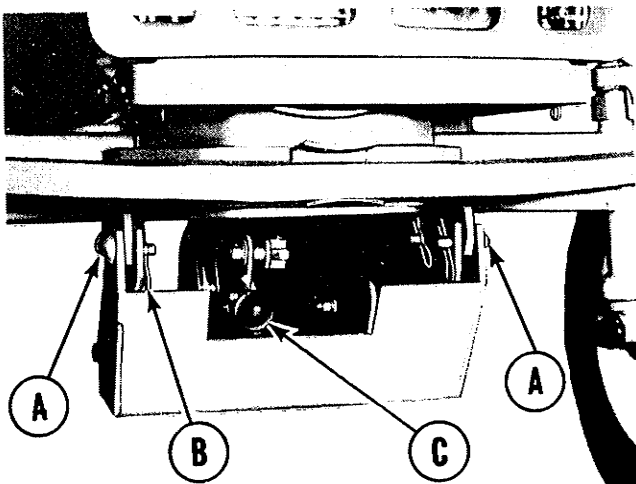

Figure 1. Hitch for center mounted attachments shown mounted on tractor.
1. See figure 1. Using four pins (A) and spring clips (B), mount the hitch for center mounted attachments under the tractor front axle.
9. Insure the belt tightening handle (figure 1, item C) is pulled forward in the release position, then place the drive belt over the mower pulley.
10. See figure 1. Push the belt tightening handle (C) down and back to tighten the belt.
1. See figure 1. Pull the belt tightening handle (C), forward to release belt tension.
8. See figure 1. If the tractor is to be used for jobs where the hitch for mid-mounted attachments is not required remove the four spring clips (B) and pins (A) holding the hitch assembly to the tractor.